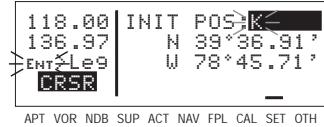

Figure 3-45
- Turn off the cursor. To try it out, proceed to the SET 1 page (initial position). Turn the cursor (CRSR) on (it will come on over the waypoint field). Try turning the right inner knob clockwise (figure 3-45). There's the character you just selected on the SET 5 page!